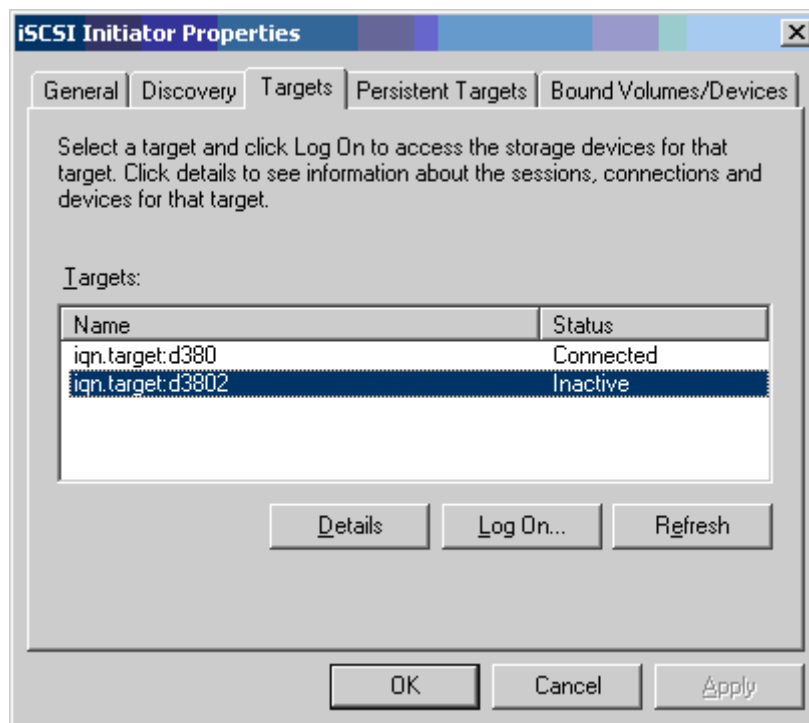

Figure 10-13. iSCSI Initiator Properties: Targets Page
9. On the Targets page, select the target, and then click **Log On** to log into your iSCSI target using the Marvell iSCSI adapter. Figure 10-13 shows an example.